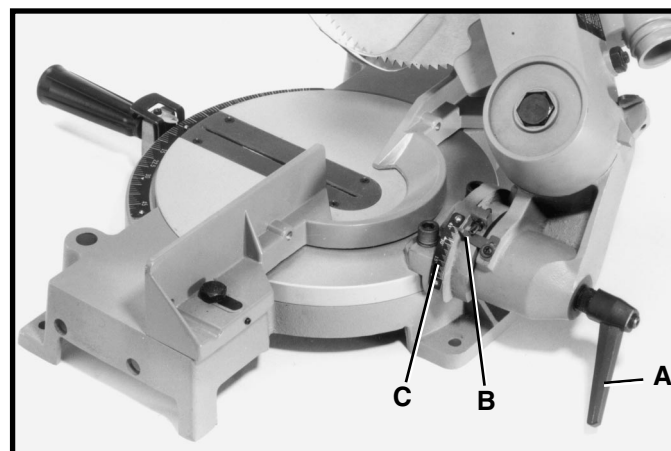

Fig. 16
The cutting arm of your compound miter saw can be tilted to cut any bevel angle from a 90 degree straight cut-off to a 45 degree left bevel angle by loosening bevel lock handle (A) Fig. 16, tilting cutting arm to the desired angle and tightening lock handle (A). **NOTE:** Lock handle (A) is spring loaded and can be repositioned by pulling out on the handle and repositioning it on the nut located underneath the hub of the handle.
Positive stops are provided to rapidly position the saw blade at 90 and 45 degrees to the table. The bevel angle of the cutting arm is determined by the position of the pointer (B) Fig. 16, on the scale (C).